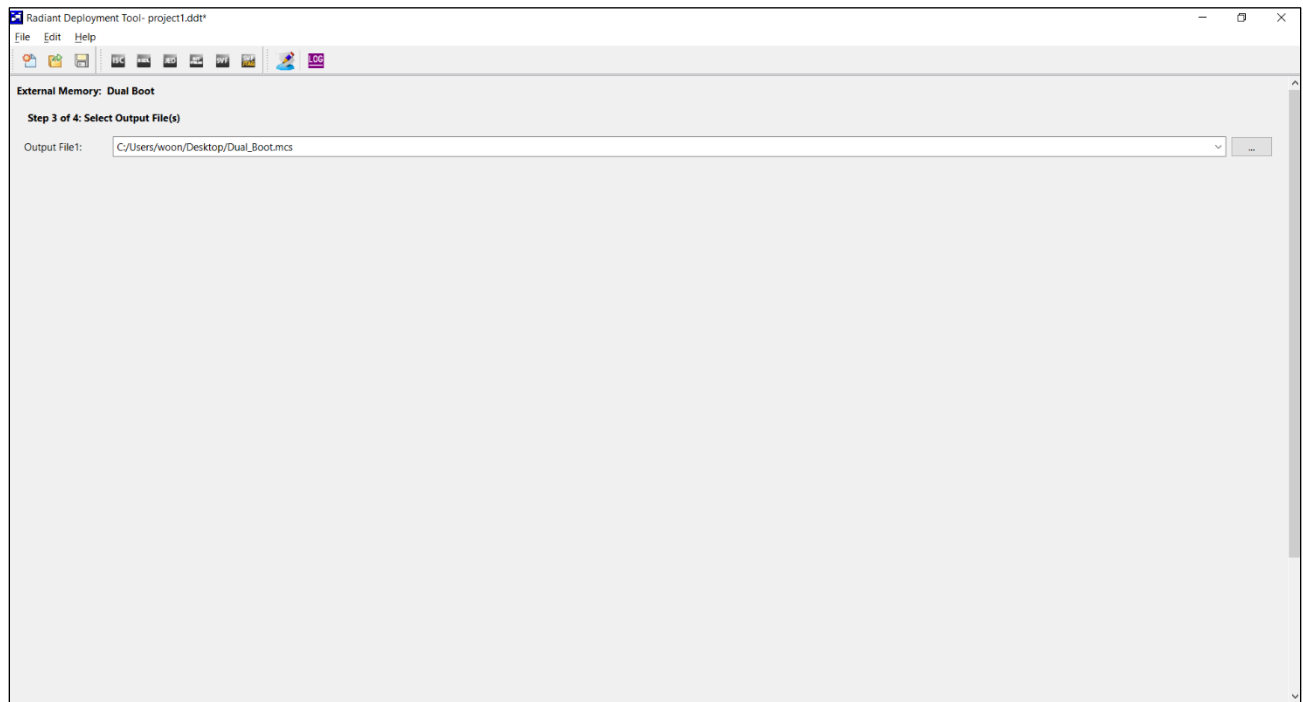

Figure 7.4. Select Output File(s) Window
Step 3 of 4: Select Output File(s) window (Figure 7.4)